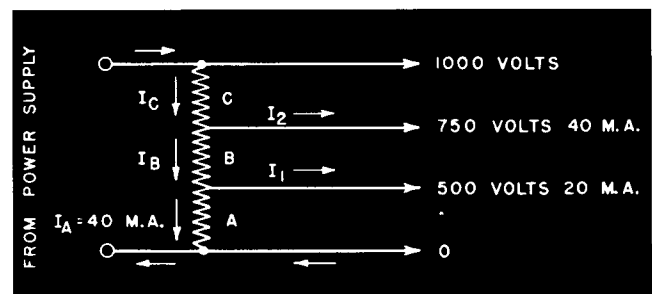

Fig. 5: Voltage Divider Diagram for Example 3.
*Method:* The first step is to make a sketch similar to Fig. 5 showing the voltages and currents. Commence with Section A, which carries only the bleeder current  $I_A$ . By Ohm's Law: